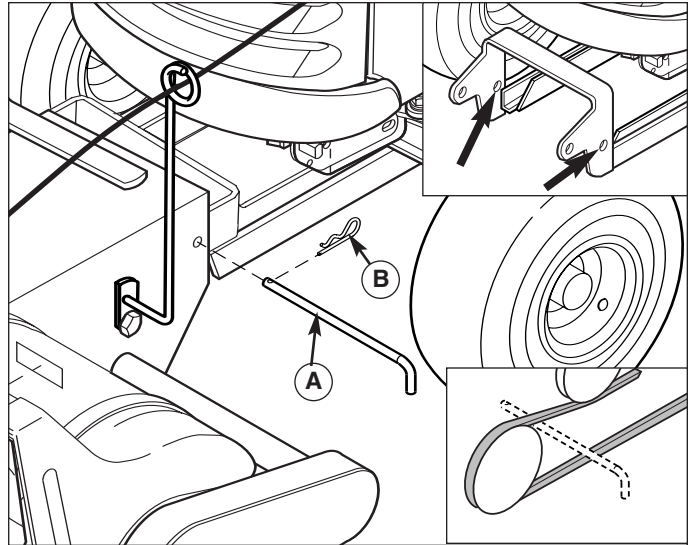

Figure 24. Install Snowthrower
1. Position the snowthrower in front of the hitch. Insert the hitch pin (A, Figure 24) through the snowthrower and hitch on both sides of the snowthrower. Secure with a hair pin clip (B). Use the back set of hitch holes (see inset).